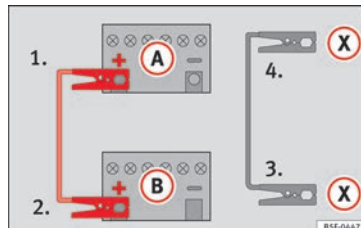

Fig. 80 Diagram of connections for vehicles with Start Stop system
- 4b. *For vehicles with Start-Stop system:* connect one end of the **black** jump lead **X** to a suitable ground terminal, to a solid piece of metal in the engine block, or to the engine block itself » **Fig. 80**.